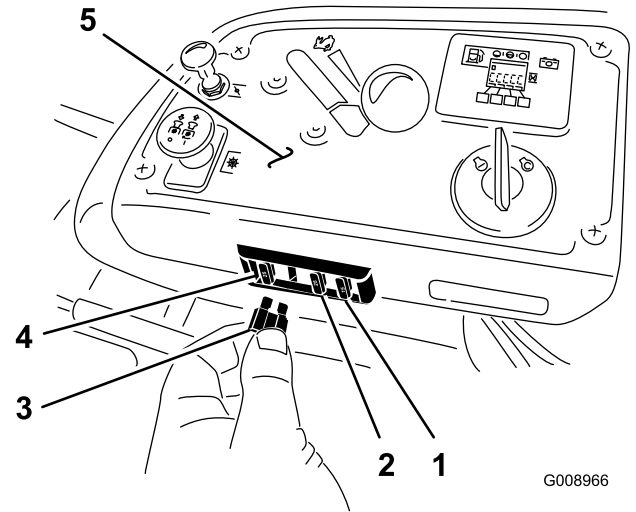

Figure 57
3. Install a new fuse (Figure 57).
1. The fuses are located on right hand console next to the seat (Figure 57).